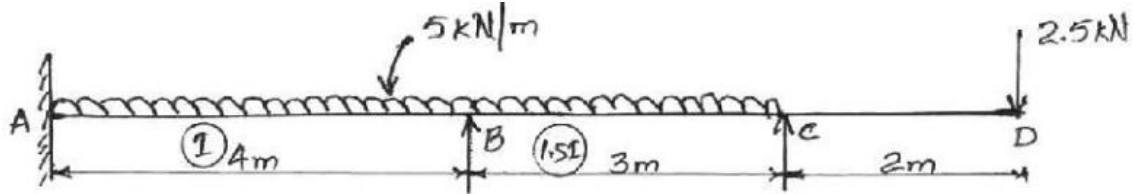

Fig.3
5. a) Analyze the continuous beam by Kani's method shown in Fig.3 and draw BMD & SFD.